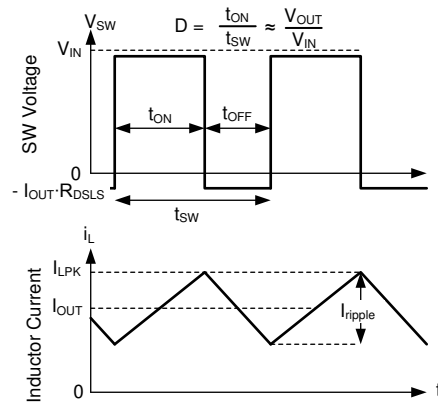

图 8-21. SW Voltage and Inductor Current Waveforms in Continuous Conduction Mode (CCM)
The following operating description of the LM62435-Q1 refers to Figure 8.2 and to the waveforms in Figure 8-21. In CCM, the LM62435-Q1 supplies a regulated output voltage by turning on the internal high-side (HS) and low-side (LS) NMOS switches with varying duty cycle (D). During the HS switch on-time, the SW pin voltage, V_{SW} , swings up to approximately V_{IN} , and the inductor current, i_L , increases with a linear slope. The HS switch is turned off by the control logic. During the HS switch off-time, t_{OFF} , the LS switch is turned on. Inductor current discharges through the LS switch, which forces the V_{SW} to swing below ground by the voltage drop across the LS switch. The converter loop adjusts the duty cycle to maintain a constant output voltage. D is defined by the on-time of the HS switch over the switching period: